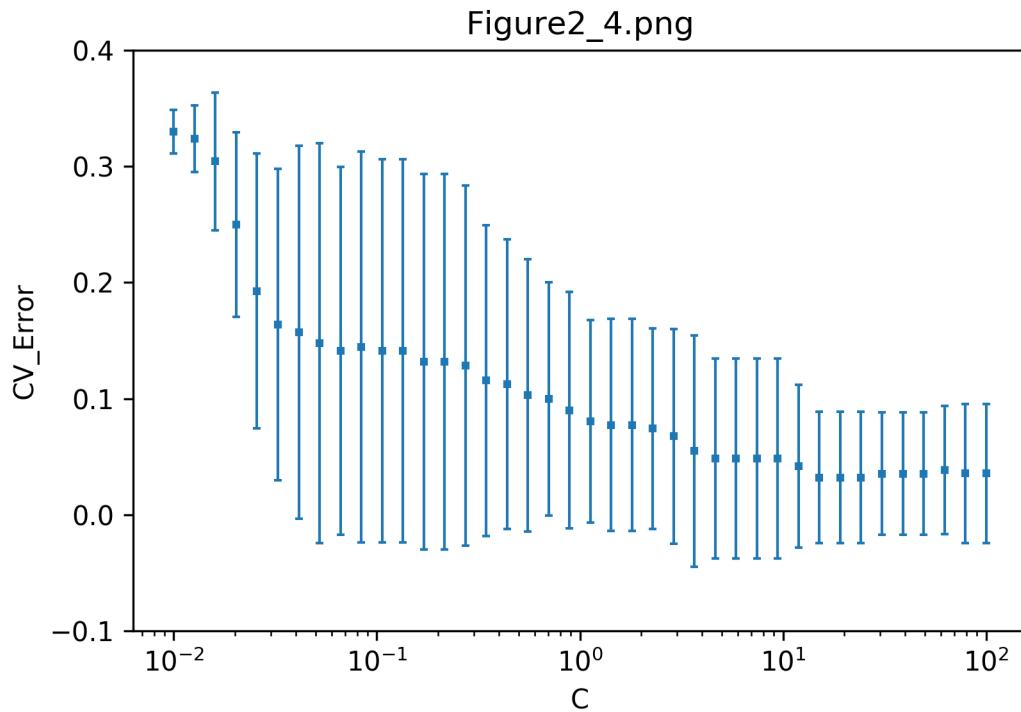

Figure 2.4. Cross validation error for different c values in SVM on 2D data (linear, soft margin SVM; c from 0.01 to 100, log scale).
a) On your 2D data from HW1, find the cross-validation errors for all values of c from 0.01 to 100. Your x axis should have logarithmic scale and you should have at least 20 data points. Label this figure 2.4.
See **Figure 2.4**. Cross validation errors decrease with the increase of C between 0 and 10 and then stabilize.
c) Find the value of c from Figure 2.4 which has the lowest cross validation error and plot the decision region in your 2D space. Label this 2.6 Your x and y variables should be the same ones you chose in HW1.